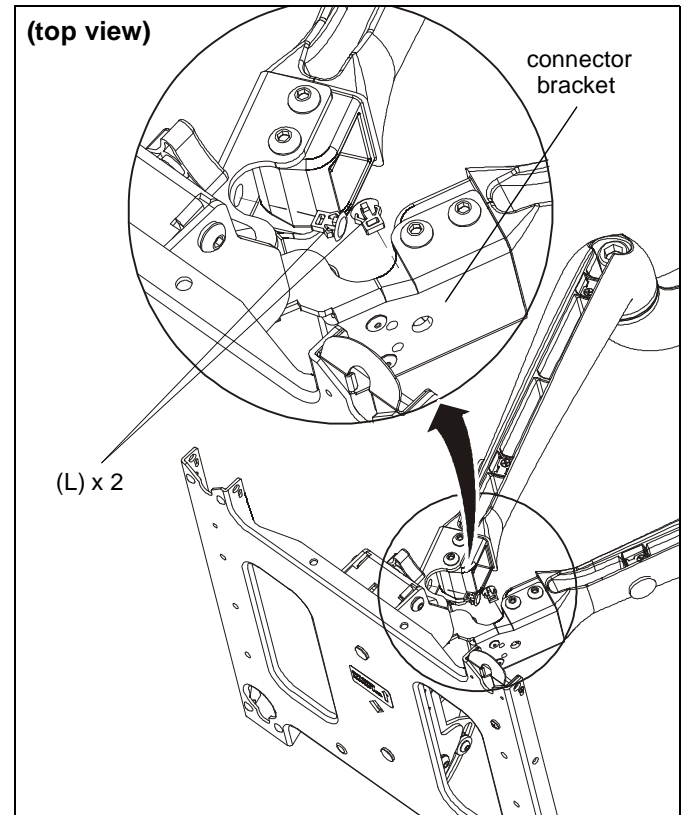

Figure 8
5. (Optional) Install two cable clips (L) into holes on connector bracket. (See Figure 8)